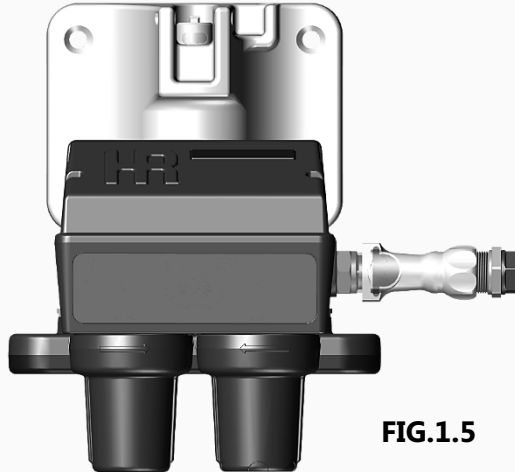

FIG.1.5
1.) The 632 Pro-control Module can fit on both the Shake and the Soft serve Freezer Door **FIG.1.5**.